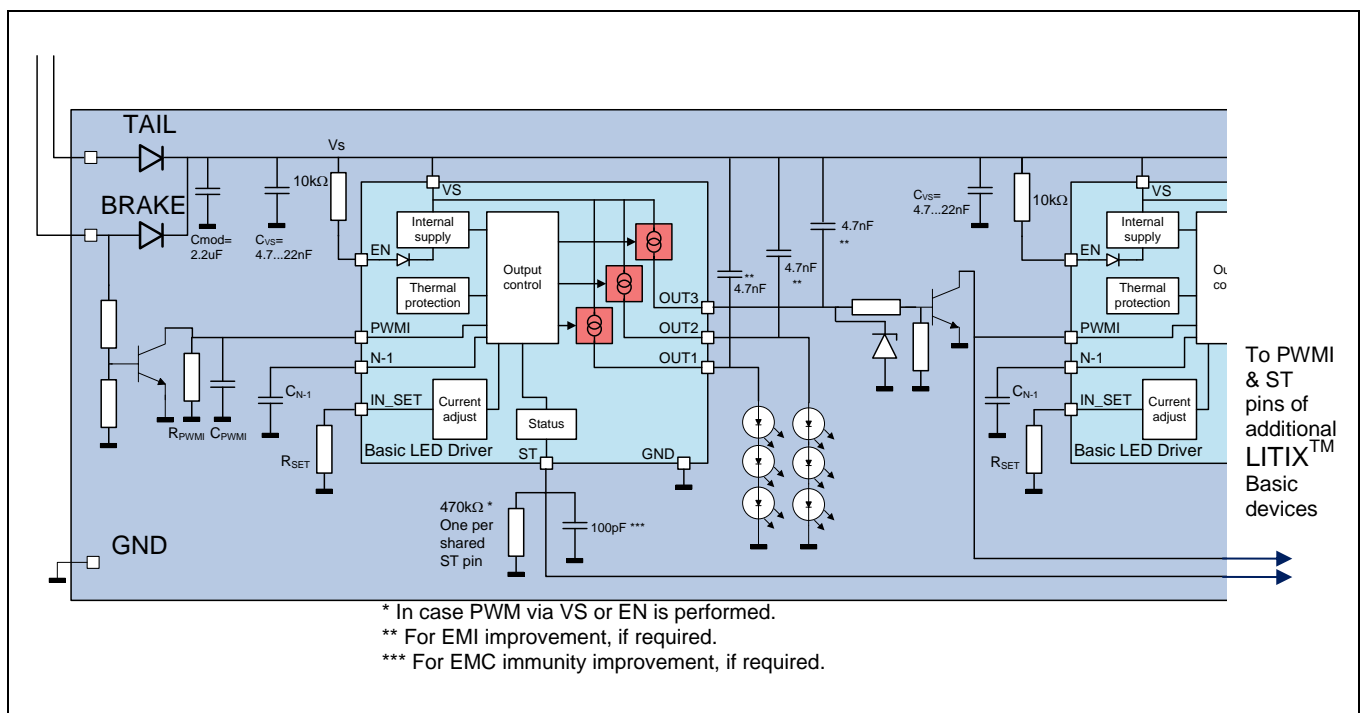

Figure 49 Application Circuit – detail of PWM unit external circuitry (TLD1315)
- See Figure 49 for a diagram of the PWM unit external control circuitry.